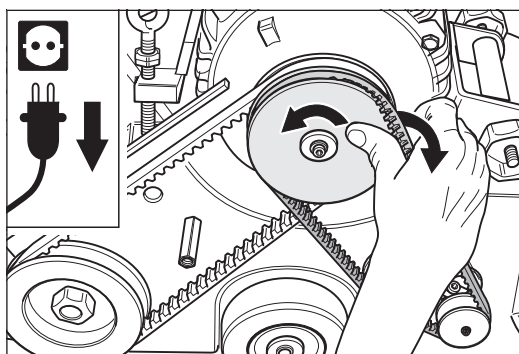

Fig. 44 Remove the suction V-belt.
- 7 Turn the motor pulley and allow the suction V-belt to run off the motor pulley (Fig. 44).